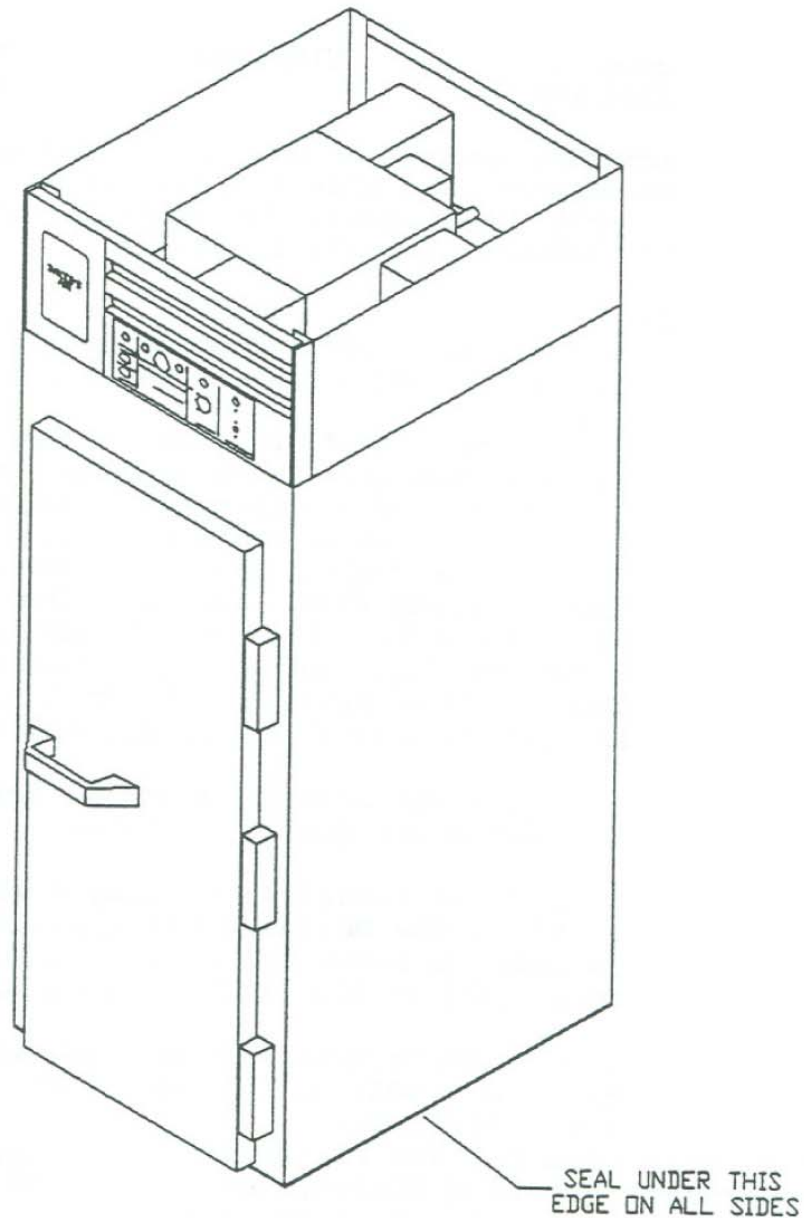

Figure 4-1. Proofer installation - floor sealing
3. National Sanitation Foundation NSF Code requires a seal between bottom of box and floor to prevent moisture and dirt from being trapped underneath. DOW Corning #732 silicone sealant is required. Sealant should ooze out from under box when box is in place, at which time it can be smoothed out. See Fig 4-1.